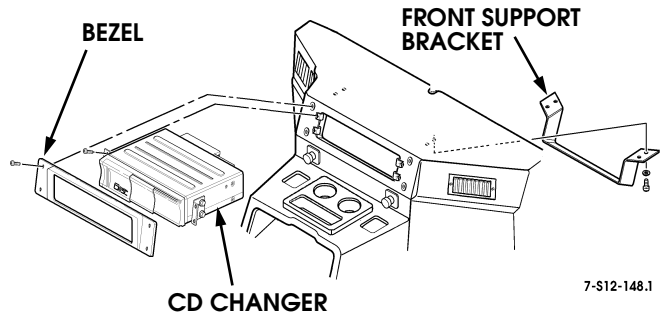

Figure 12-137: CD Changer Removal.
1. Remove four screws retaining the CD changer bezel to the console and remove bezel (Figure 12-137).